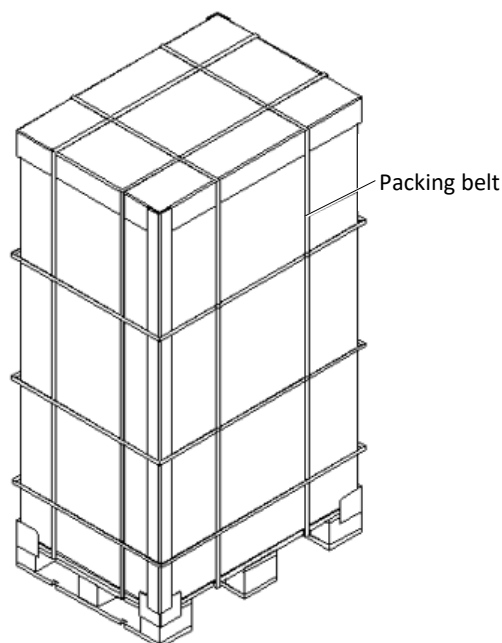

Figure 2-2 Removing packing belt and honeycomb board
1. Use a cutting plier to cut the packing belt, and remove the honeycomb board as shown in Figure 2-2.